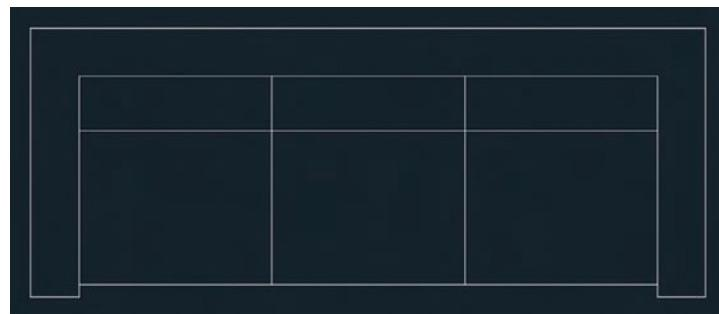

FIGURE 9.6 Redesigned sofa drawing
12. Press the spacebar to repeat the **FILLET** command. Click the outer line on the left arm of the sofa and then click the top back line. The sofa redesign is complete (see Figure 9.6).
Open Sofa2.dwg (see Figure 9.6).